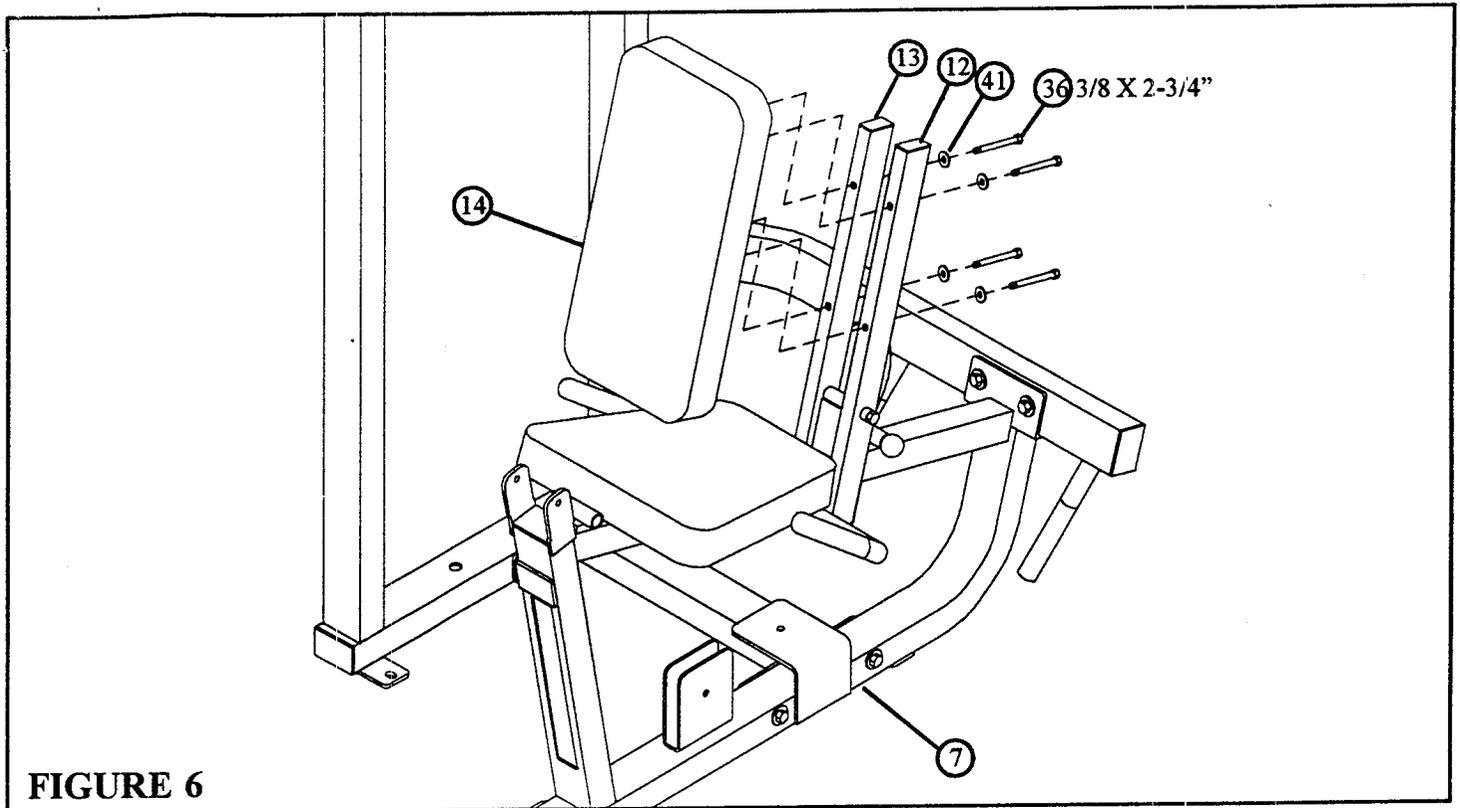

**FIGURE 5**
- Assemble RIGHT (12) & LEFT (13) PAD SUPPORTS to the BENCH FRAME (7) using one 1/2 X 6" BOLT (32), two 1/2" FLANGE BEARINGS (50), and one 1/2" LOCK NUT (43) as shown in FIGURE 5. (NOTE: Securely tighten, then back nut off 1/4 turn to allow the two parts to rotate freely.)